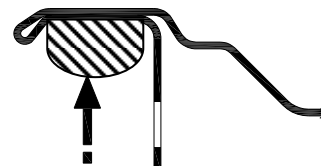

Fig 1.
9. Check that the pre-fitted worktop seal has not been damaged in transit and covers the full perimeter of the sink (fig 1.)